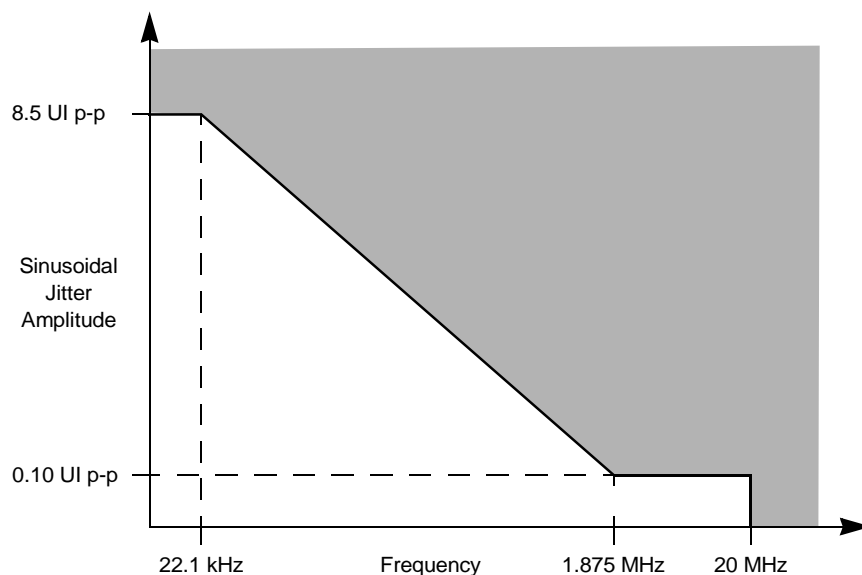

Figure 18. Single Frequency Sinusoidal Jitter Limits
2. Total jitter is composed of three components, deterministic jitter, random jitter, and single frequency sinusoidal jitter. The sinusoidal jitter may have any amplitude and frequency in the unshaded region of Figure 18. The sinusoidal jitter component is included to ensure margin for low frequency jitter, wander, noise, crosstalk, and other variable system effects.
1. See Figure 18 for single frequency sinusoidal jitter limits
2. Refer to RapidIO™ 1x/4x LP Serial Physical Layer Specification for interpretation of jitter specifications. Also see Figure 18.